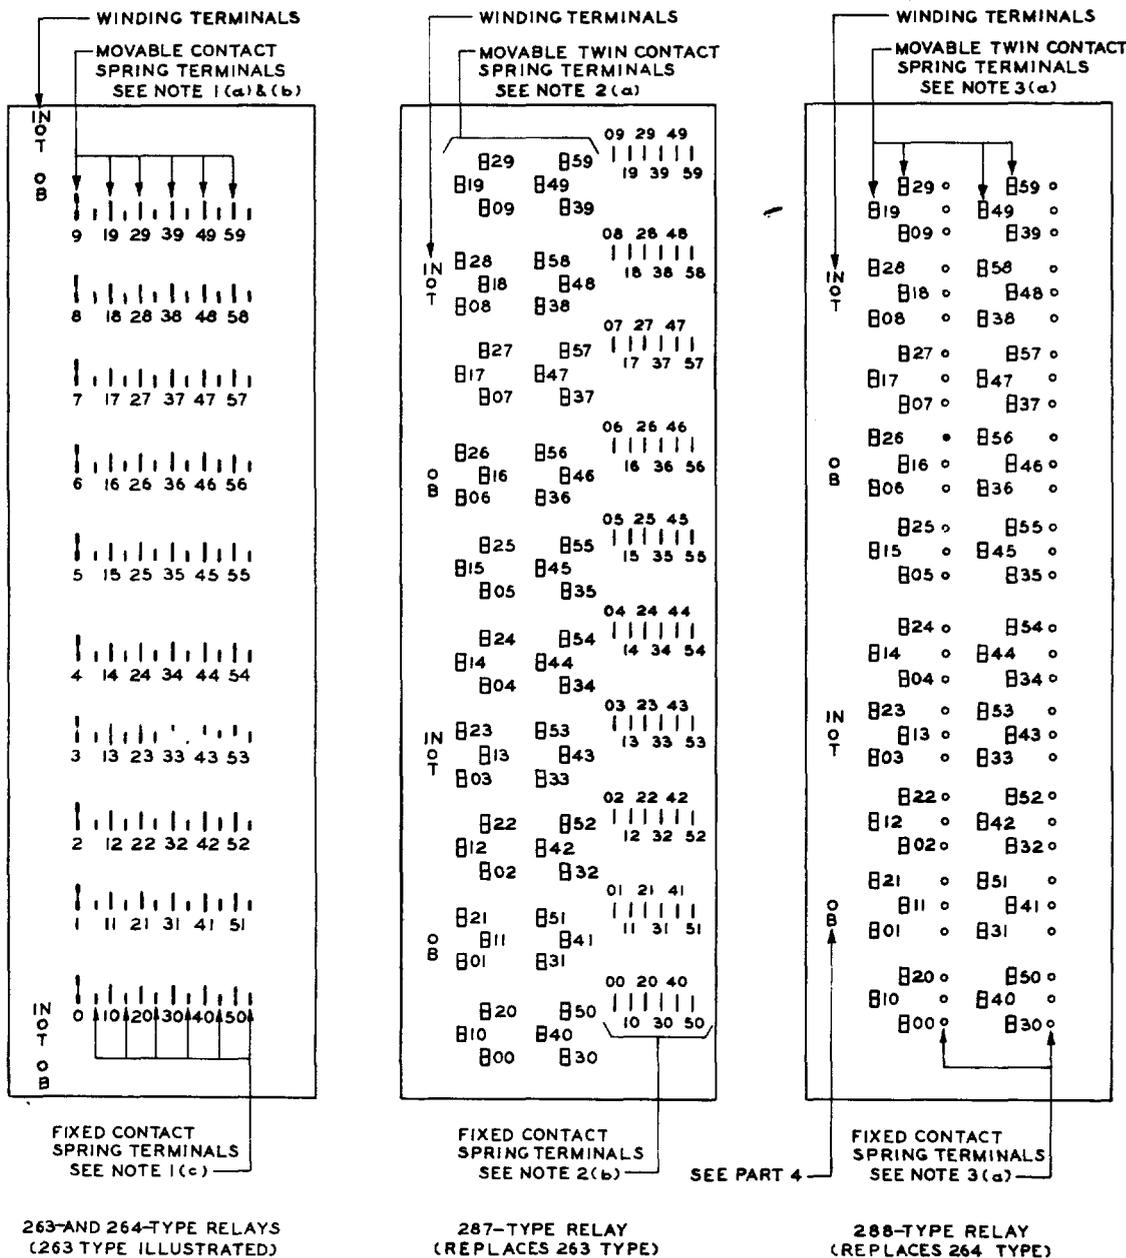

Fig. 2 - Terminal Arrangement Viewed From Wiring Side
5.01 Connections removed from a 263- or 264-type relay should be transferred to the replacing 287- or 288-type relay as described in the following paragraphs. Fig. 2 shows the terminal arrangement of 287- and 288-type relays compared to the arrangement of terminals on 263 and 264 types. Referring to Fig. 2 and the associated notes, the movable contact springs of 263-type relays are arranged for horizontal strapping while on 287-type relays fixed contact springs are arranged for horizontal strapping.
NOTES FOR FIG. 2
5.06 As shown in Fig. 2, the location of the winding terminals on 287- or 288-type relays is different from that of corresponding terminals on 263- and 264-type relays. Where skinners to be connected to winding terminals on 287- and 288-type relays are too short, splice them using a straight splice insulated with varnish-impregnated sleeving per KS-7851.